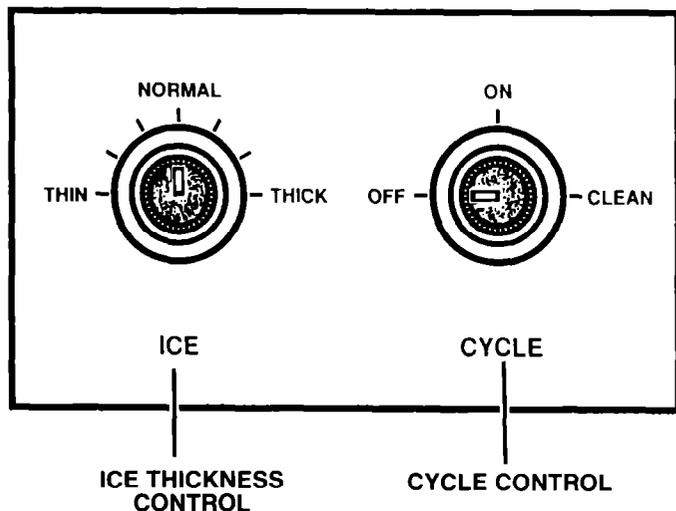

FIGURE 1 - CONTROL SWITCHES
Your ice maker has been pre-set to produce ice approximately 13 mm (½") thick. The thickness can be increased or decreased by resetting the thickness control, Figure 1, however best performance will be obtained at the 13 mm (½") thickness.
1. Place cycle control, Figure 1, in "OFF" position.